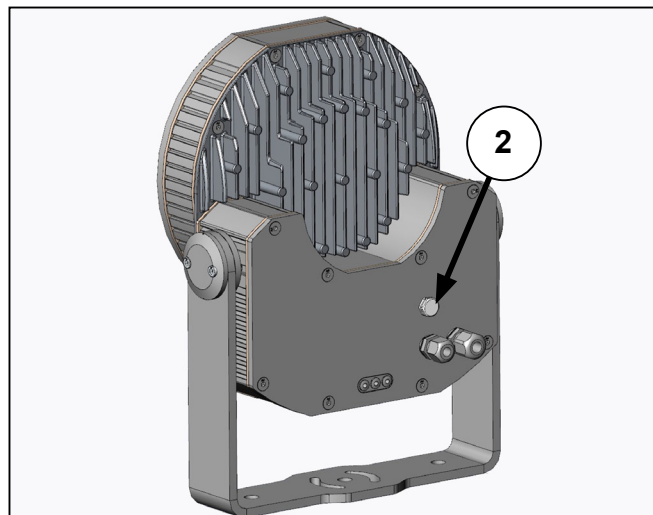

Figure 7: Pressure relief valve on Exterior 400
20. Remove the pump adaptor (figure 3) and immediately mount the pressure relief valve (figure 7) to prevent water droplets from entering the product.